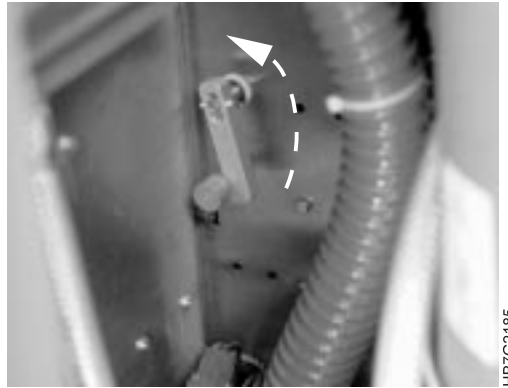

Figure 319. Backup Roll Pressure Handle
- 19** Find the small handle located on the back and left side below the dust filters, as shown in Figure 319 on page 369. There are two machine configurations. If you do not see the handle, continue with step 21 on page 369 to locate the handle in an alternate location.